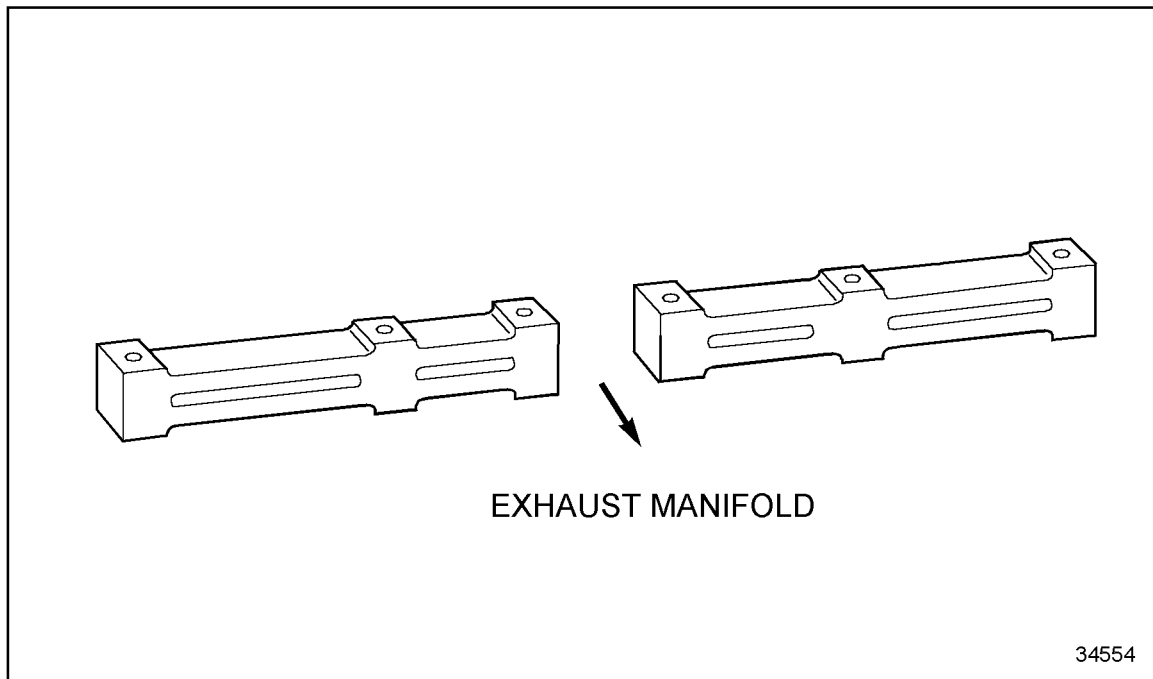
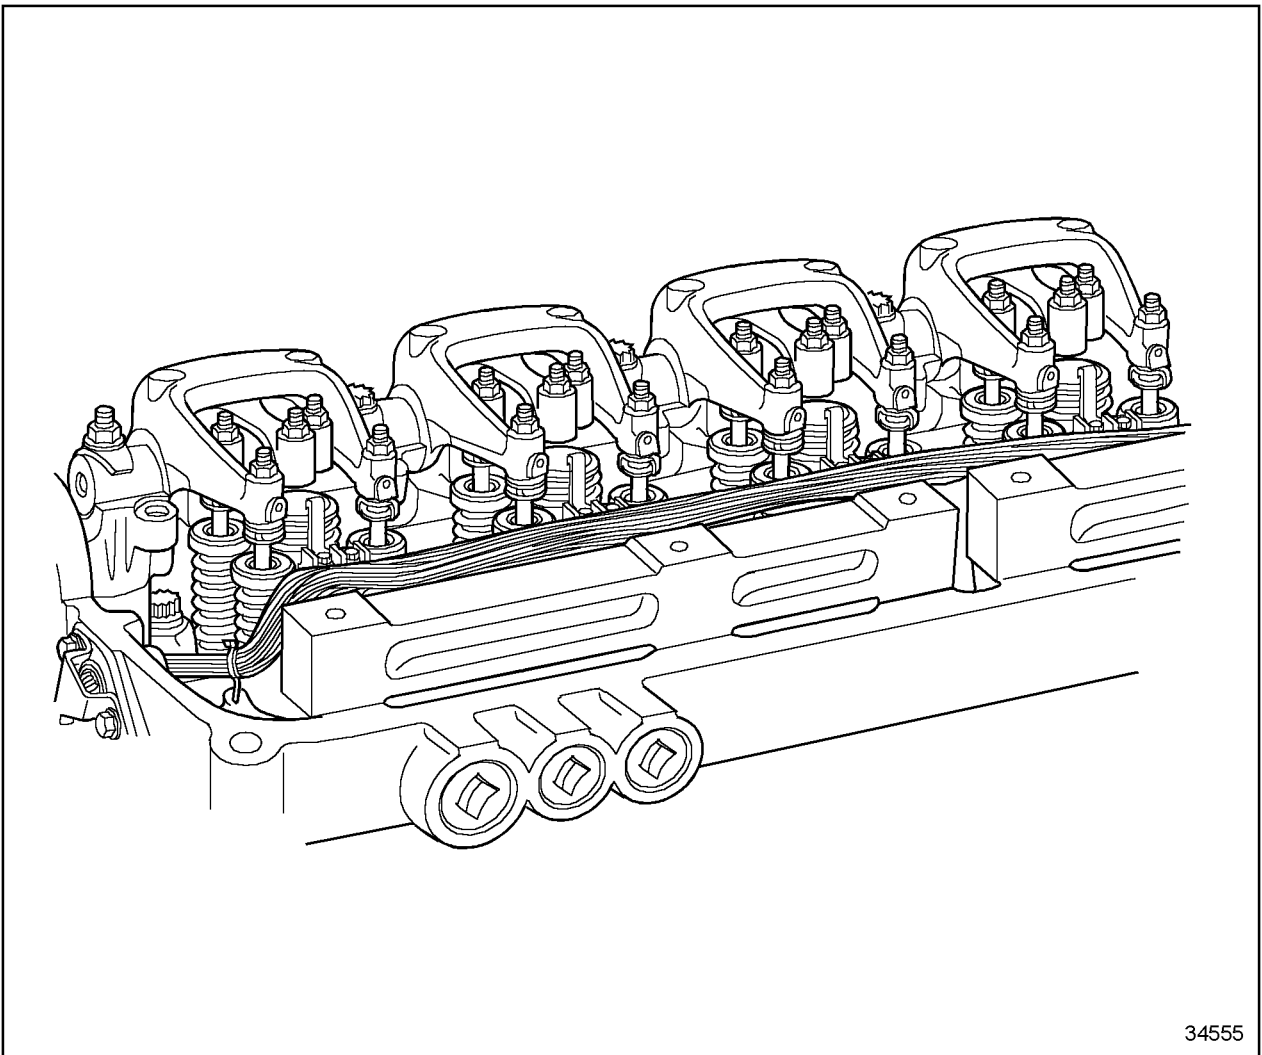

Figure 1-435 **Spacer Bars with "Out" Marks Adjoined**
Figure 1-436 **Location of Spacer Bars**
4. Place the spacer bar on the exhaust manifold side of the cylinder head with the "OUT" markings adjoining each other and facing the exhaust manifold. See Figure 1-435, and see Figure 1-436.